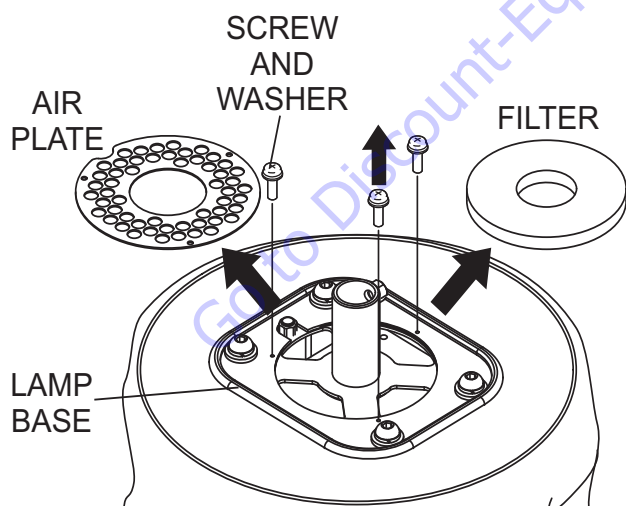

Figure 43. Filter Removal
4. Using a small phillips-head screwdriver, remove the three screws/washers that secure the air plate to the lamp base (Figure 43). Remove air plate and filter.